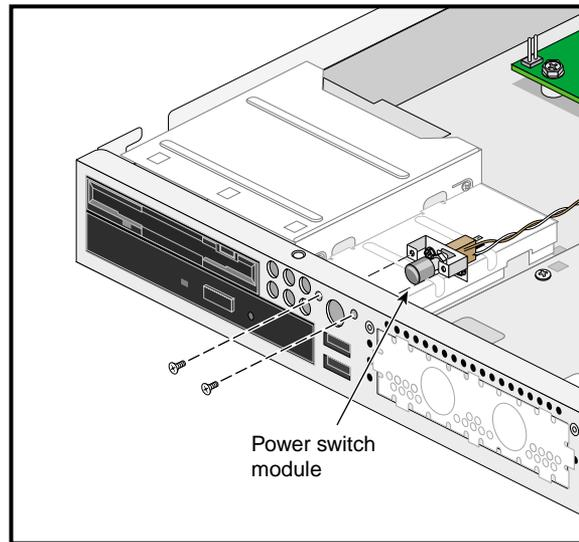

Figure 2-18 Removing the Power Switch Cable Module
3. Remove two screws from the power switch cable module as shown in Figure 2-18.